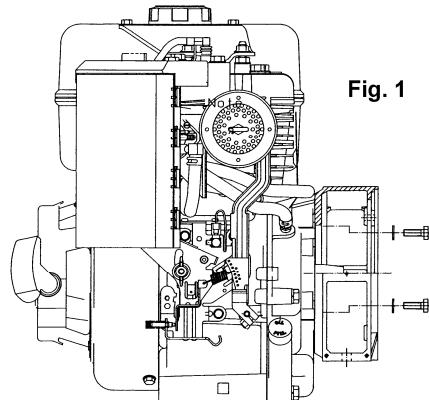

Fig. 1
-) mount the front cover on the motor, fixing it with the appropriate screws and applying a tightening torque of $48\pm7\%$ Nm if using M10 screws or $21\pm7\%$ Nm for M8 screws (figure 1)